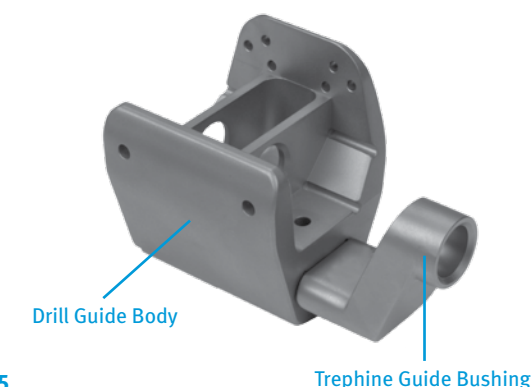

Fig. 135
- Slide the Segmental Trephine Guide Bushing into the slot of the Segmental/RH Knee Drill Guide Body (Fig. 135).